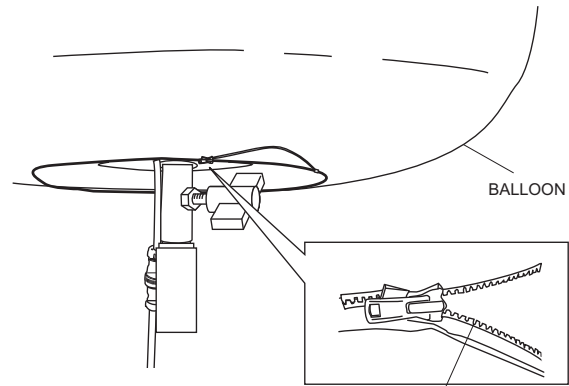

Figure 29. Unzipping Balloon
1. Unzip the bottom of the balloon. See Figure 29.